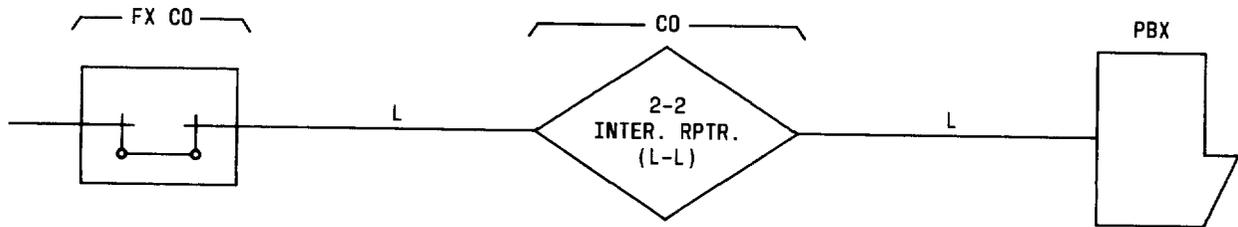

Fig. 12—Application of the 2-2 Intermediate (L-L) Repeater in an FX Trunk
5.01 The J99343PC and the J99343PH, L1 and L2 repeaters may be used to provide gain on any 2-wire circuit between loaded facilities. Figure 12 shows a typical application using the unit in a foreign